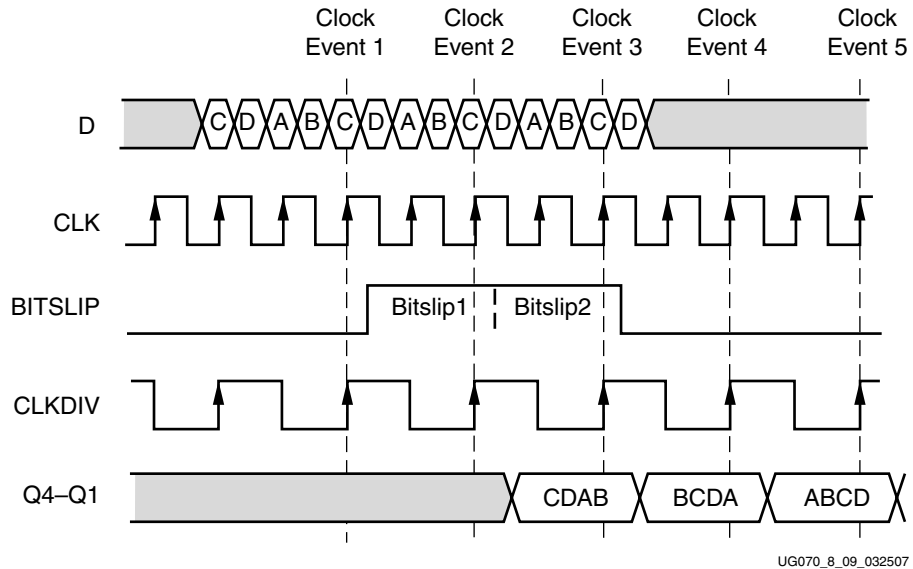

Figure 8-12: Bitflip Timing Diagram
This section discusses the timing models associated with the Bitslip controller in a 1:4 DDR configuration. Data (D) is a repeating, 4-bit training pattern ABCD. ABCD could appear at the parallel outputs Q1–Q4 of the ISERDES in four possible ways: *ABCD*, *BCDA*, *CDAB*, and *DABC*. Only one of these four alignments of the parallel word makes sense to the user's downstream logic that reads the data from the Q1–Q4 outputs of the ISERDES. In this case, it is assumed that *ABCD* is the word alignment that makes sense. Asserting Bitslip allows the user to see all possible configurations of ABCD and then choose the expected alignment (*ABCD*). Figure 8-12 shows the timing of two Bitslip operations and the corresponding re-alignments of the ISERDES parallel outputs Q1–Q4.